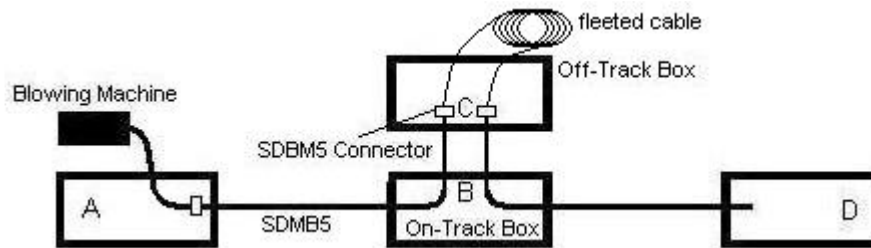

Figure 13 – Installation of additional cable
4. Continue to install the cable to the off-track box until the required length is achieved for cable management and subsequent jointing practices (see Figure 13).